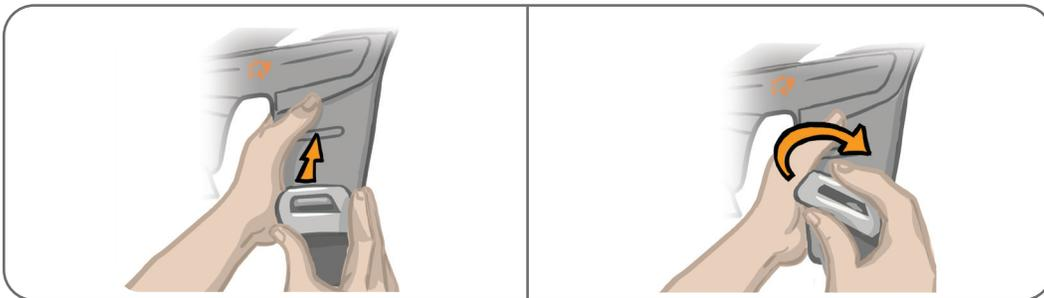

Figure 11-4: Reattaching the Thigh Straps
2. Push the strap buckle with your thumbs toward the strap (direction away from the Thigh Cuff). See Figure 11-4. The strap buckle will snap into the Thigh Cuff panel hook.